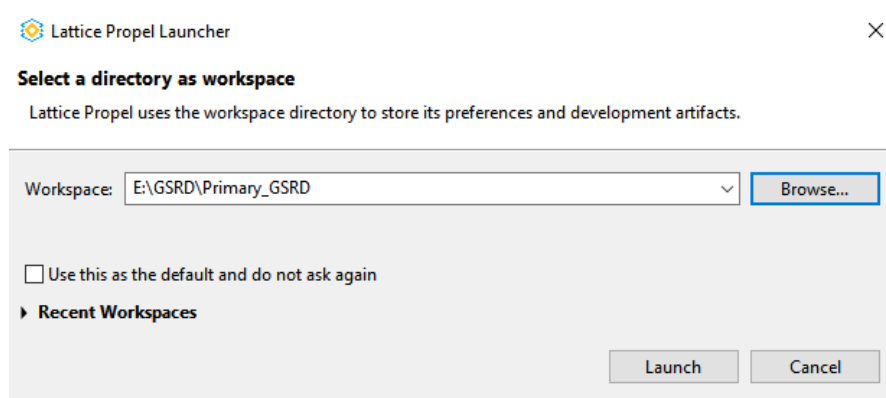

Figure A.1. Select Directory
2. To select the workspace, browse to the template location or where your project is located by clicking on the **Browse** button as shown in Figure A.1 and click on **Launch** to launch the workspace.